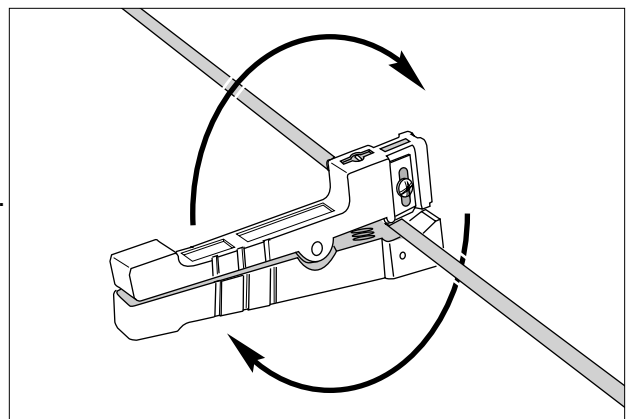

Figure 15 — Ring cutting the outer jacket
Step 2: Using the small coaxial cable cutter, make a ring cut through the outer jacket *and score the jacket* at the strip-length mark (Figure 15). It may take 1-2 rotations depending on blade sharpness.